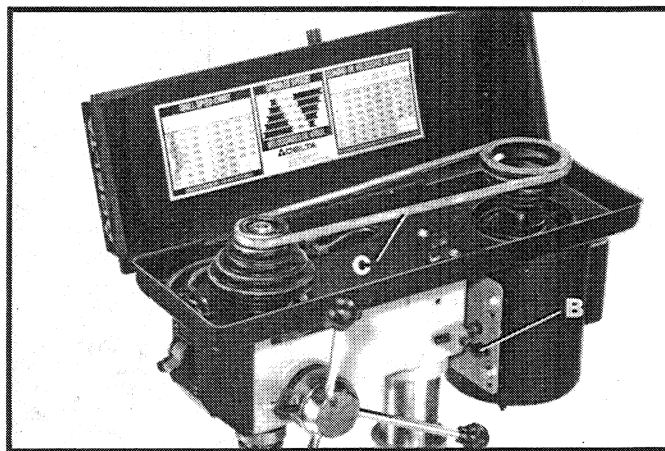

Fig. 26
5. After the belt is positioned on the desired steps of the motor and spindle pulleys, pivot motor away from the drill press head until the belt is properly tensioned and tighten tension lock knob (B) Fig. 26. The belt should be just tight enough to prevent slipping. Excessive tension will reduce the life of the belt, pulleys and bearings. Correct tension is obtained when the belt (C) can be flexed about one inch out of the line midway between the pulleys using light finger pressure.